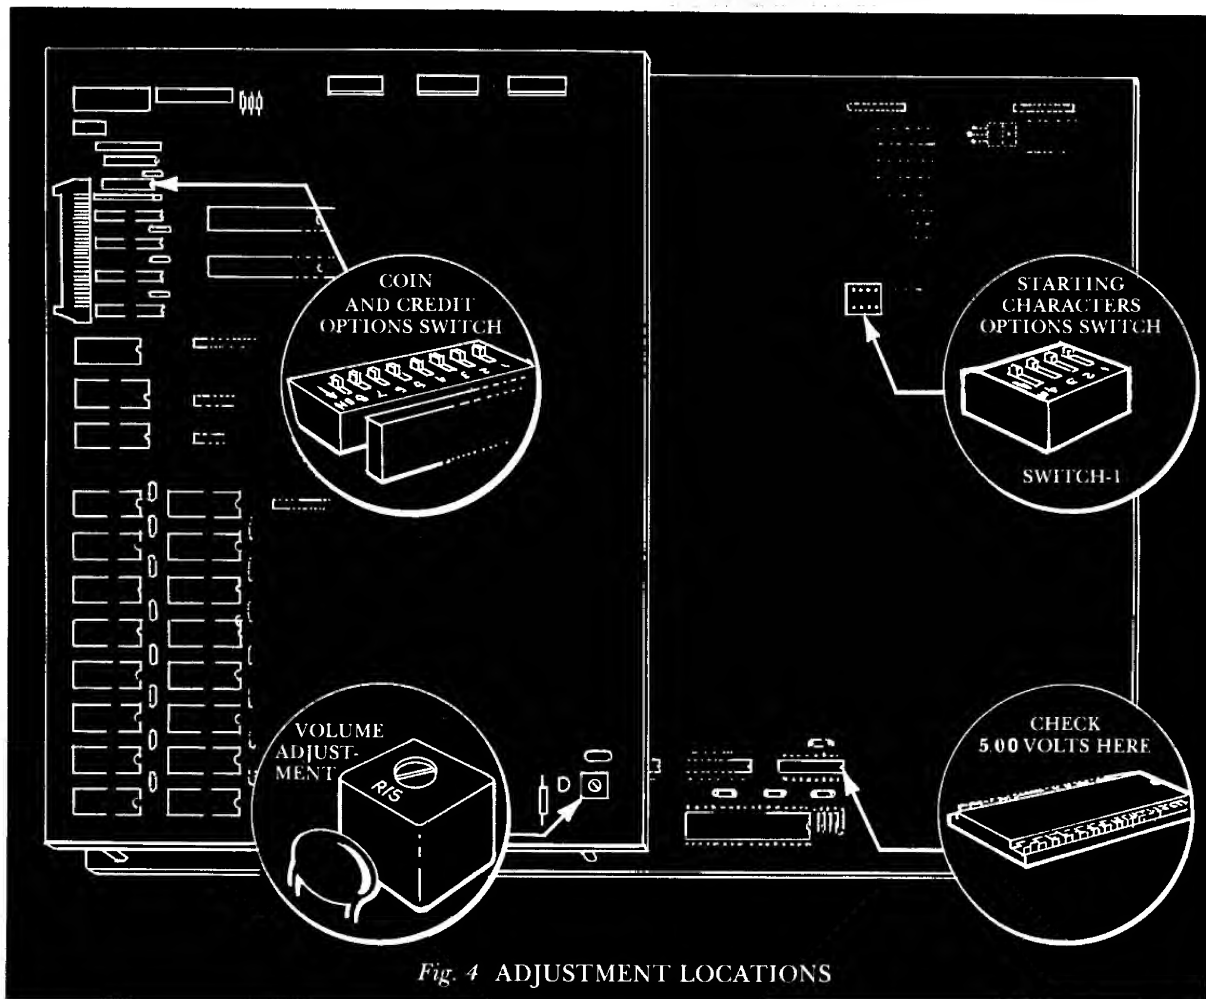

Fig. 4 ADJUSTMENT LOCATIONS
*CAUTION: Only certified technicians should make adjustments on all components of **Cheyenne™**. Only the +5v DC is adjustable. This must be adjusted to: +5.00 VDC as measured on the PCB near the microprocessor (location J2) (See Fig. 4).*
Adjust R15 master audio volume control located at position T2 on the Audio Logic Board (See Fig. 4) and adjust audio level while game is in progress. This audio board rides piggyback on the logic board, mounted inside of the cabinet on the side wall (See Fig. 1).